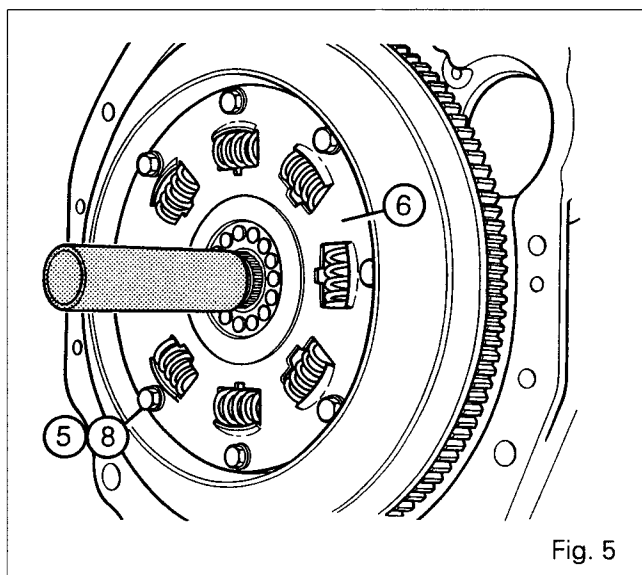

Fig. 5
Centre the shock absorber (6) on the flywheel using service tool 3378112M1 (Fig. 5), with the longer section of the shock absorber facing the flywheel (see Fig. 3). Fit the washers (5) and bolts (8) after coating them with Loctite 270, and tighten them to a torque of between 40 and 56 Nm.